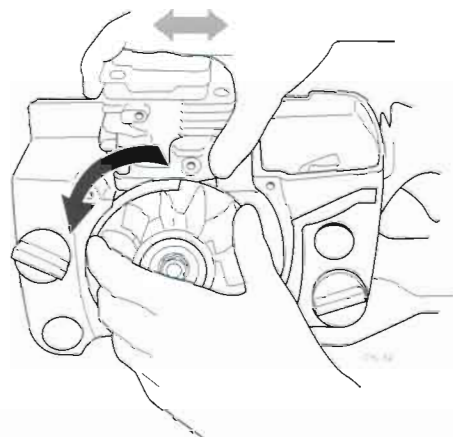

Figure 7.21 "Centering" the Cylinder in the Crankcase
STEP 1. Place one hand on the cylinder as shown, and then center the cylinder in the crankcase by slowly rotating the crankshaft while checking for binding between the piston and cylinder. If necessary, move the cylinder slightly until the piston can travel freely in the cylinder bore (Figure 7.21).